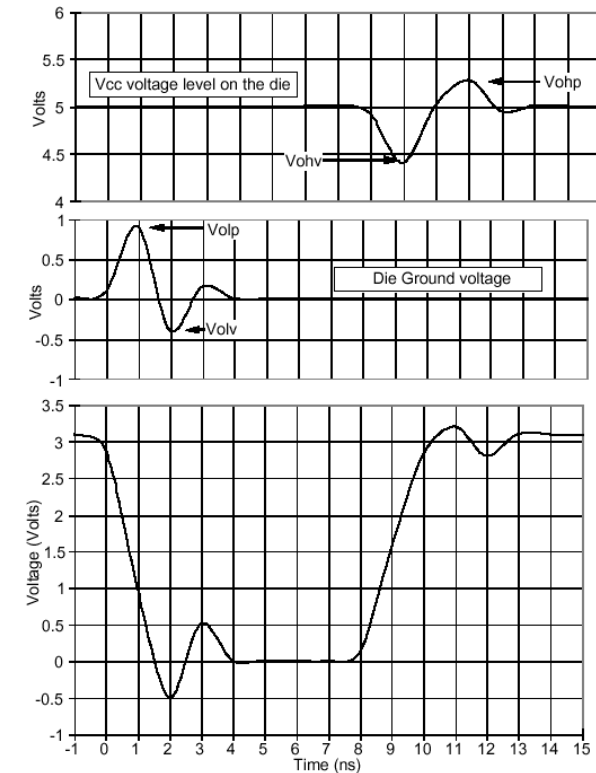

Figure 7.18 Ground and Vcc Bounce
- Figure 7.18 shows a typical waveform for a high speed CMOS component with TTL level outputs. Shown directly above the signal waveform on the same time scale is the voltage seen on the ground of the die relative to the external ground.